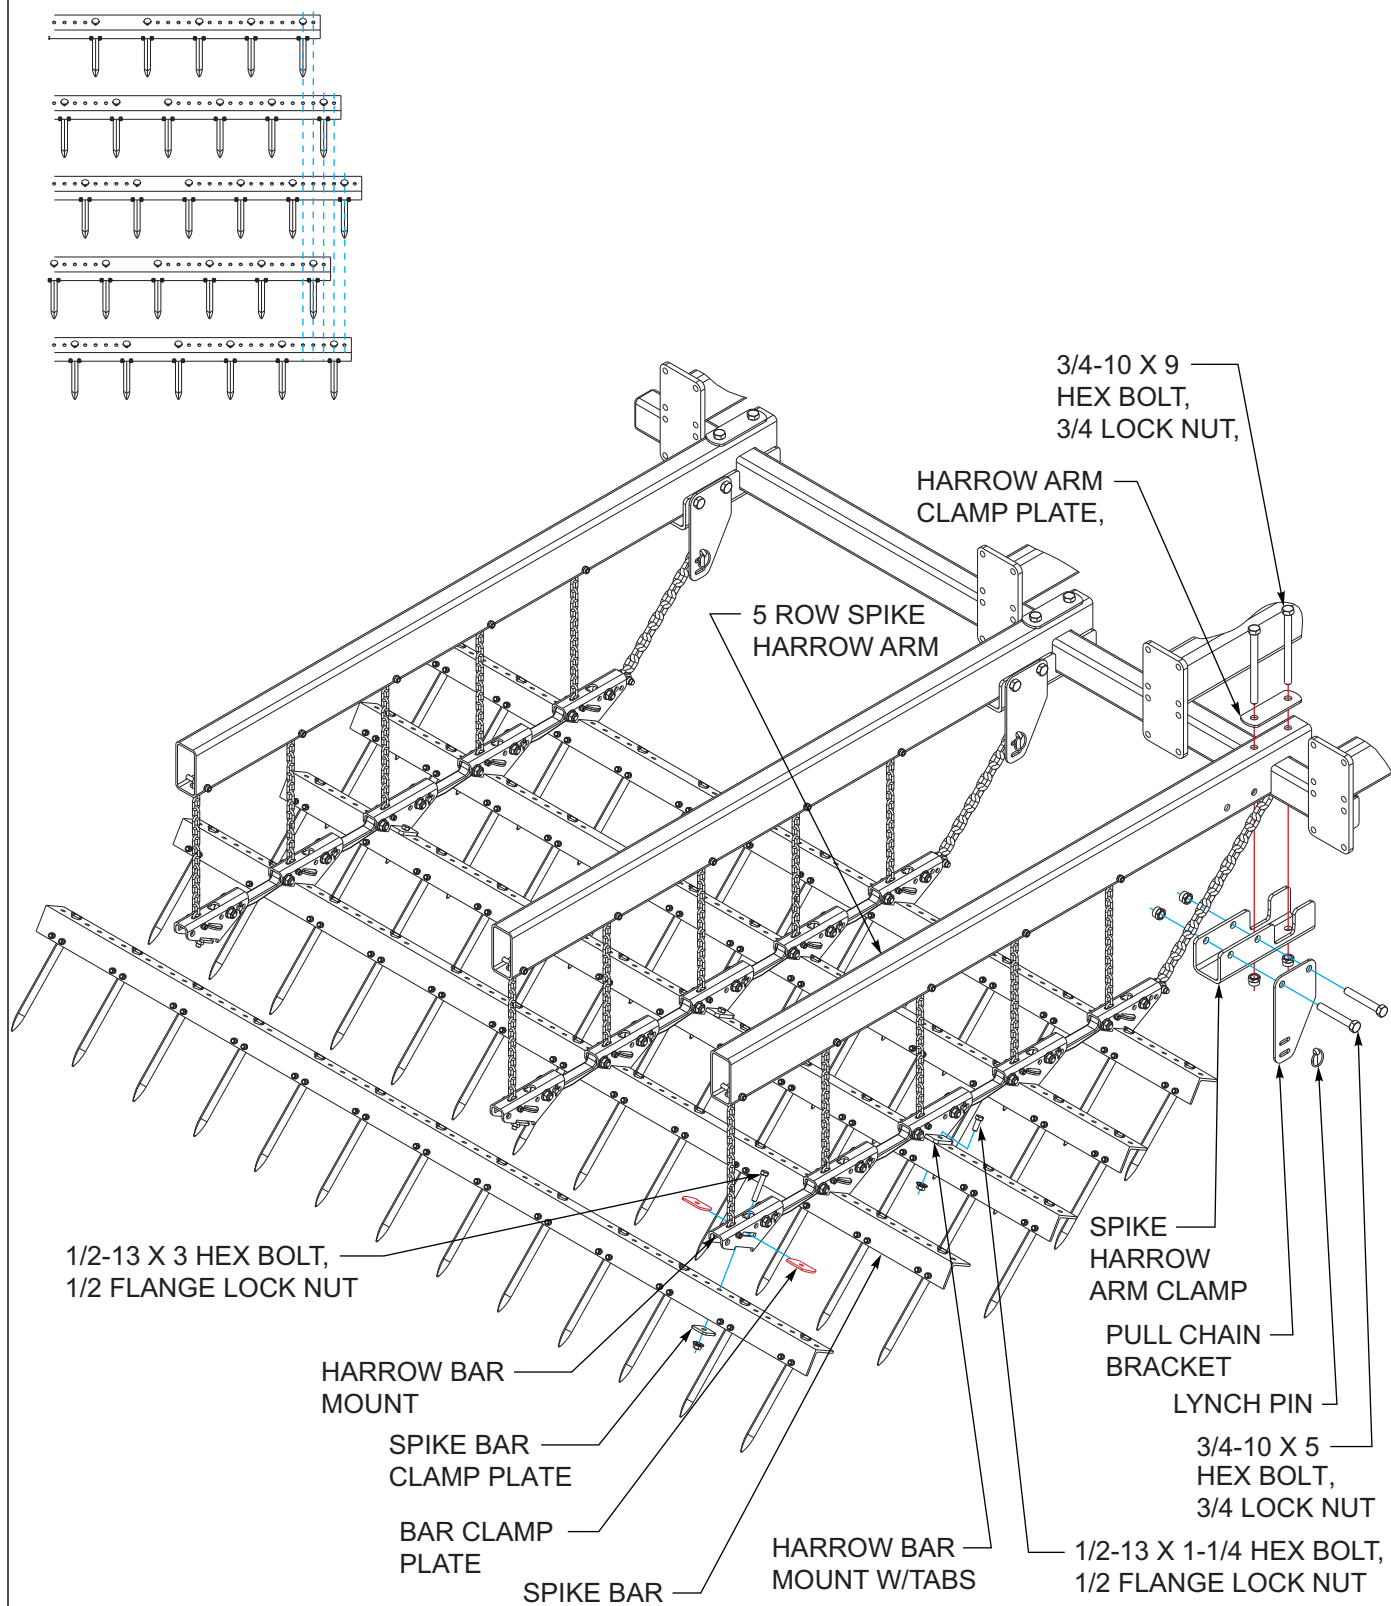

Figure 3-63: 5 Row Spike Harrow Assembly
See Figure 3-63.
3. Refer to Note: spike bar alignment **See Figure 3-63** for proper alignment of spike bar assemblies. Be sure they are aligned properly on both right and left side of each section.